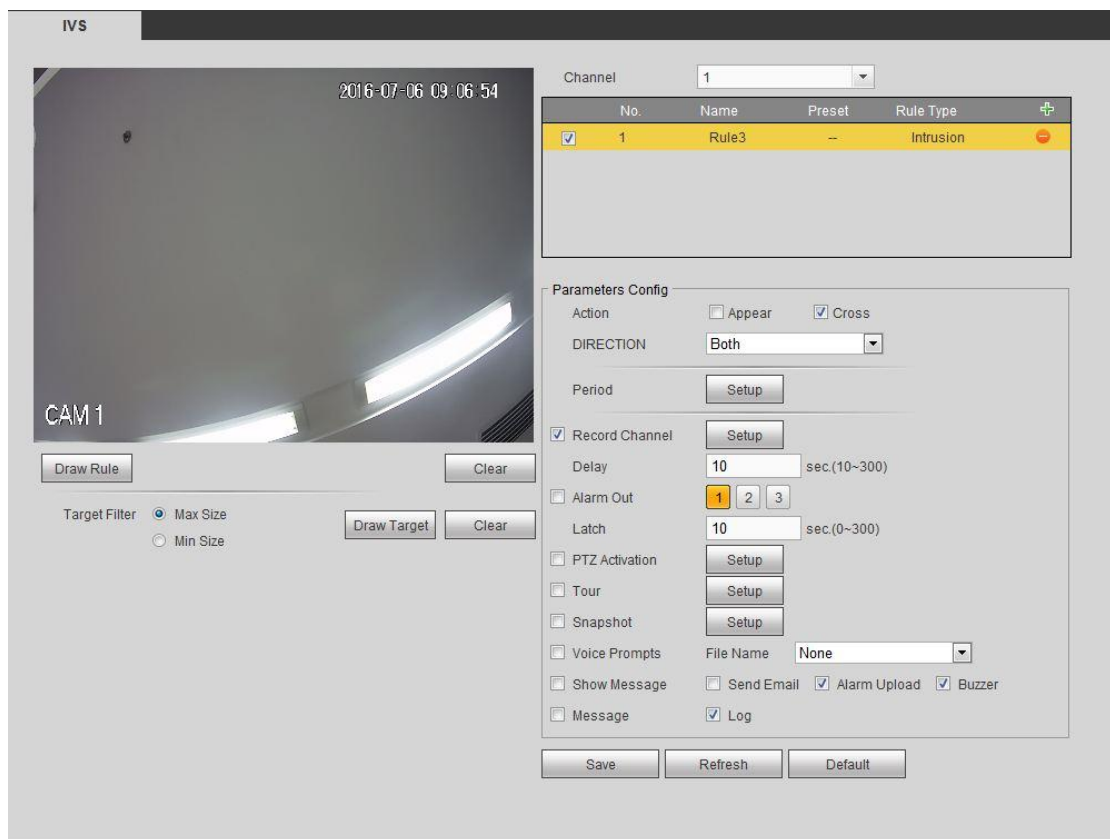

Figure 5-70
Step 2 Check the box to enable Intrusion function. See Figure 5-70.